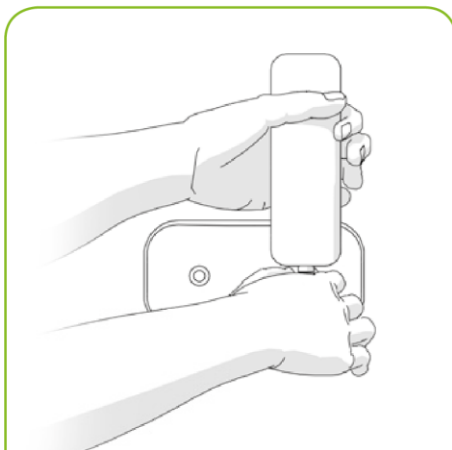

Figure 1. Place the TG.35/45 antenna onto the connector of the device and hold the antenna in the preferred orientation.
Adjust the antenna to preferable direction, then mount the SMA(M) connector on devices SMA(F) connector. (See figure 1)